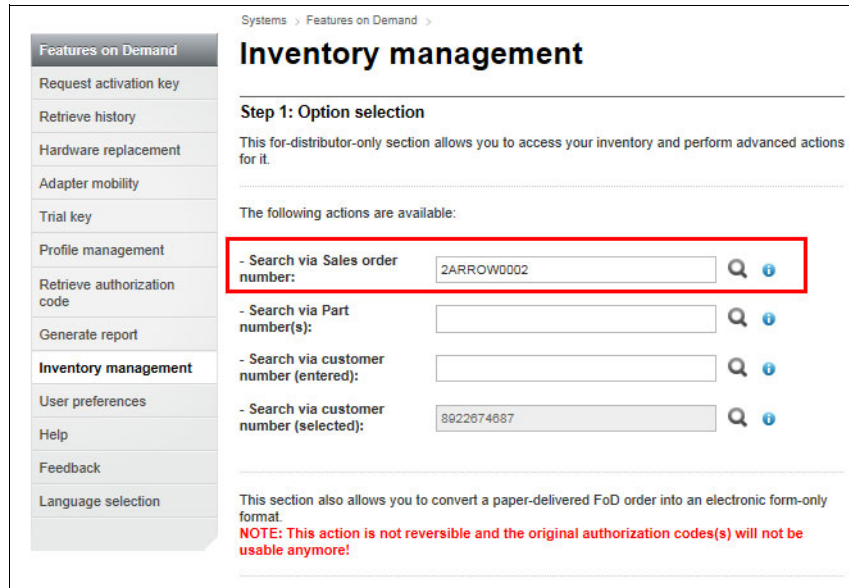

Figure 2-4 Enter IBM sales order number
2. Search via IBM sales order number (10 characters) or IBM customer number, as shown in Figure 2-4.